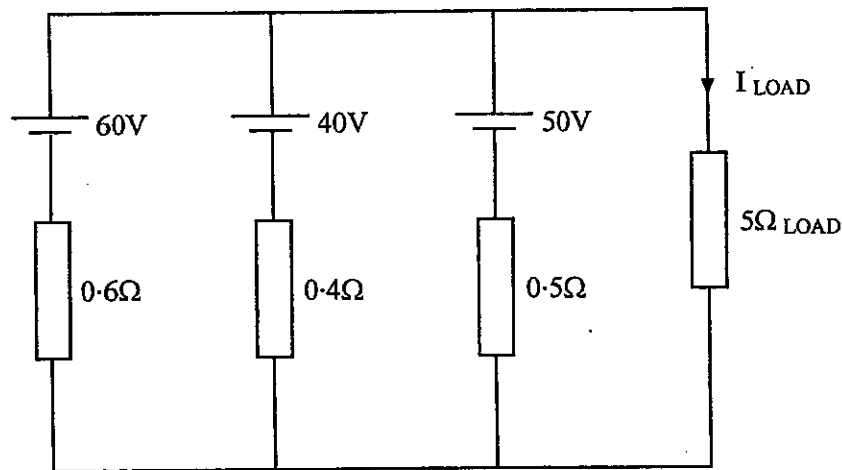

Fig Q1
1. For the circuit shown in Fig Q1, calculate EACH of the following:
- (a) the load current; (14)
- (b) the p.d. across the load. (2)